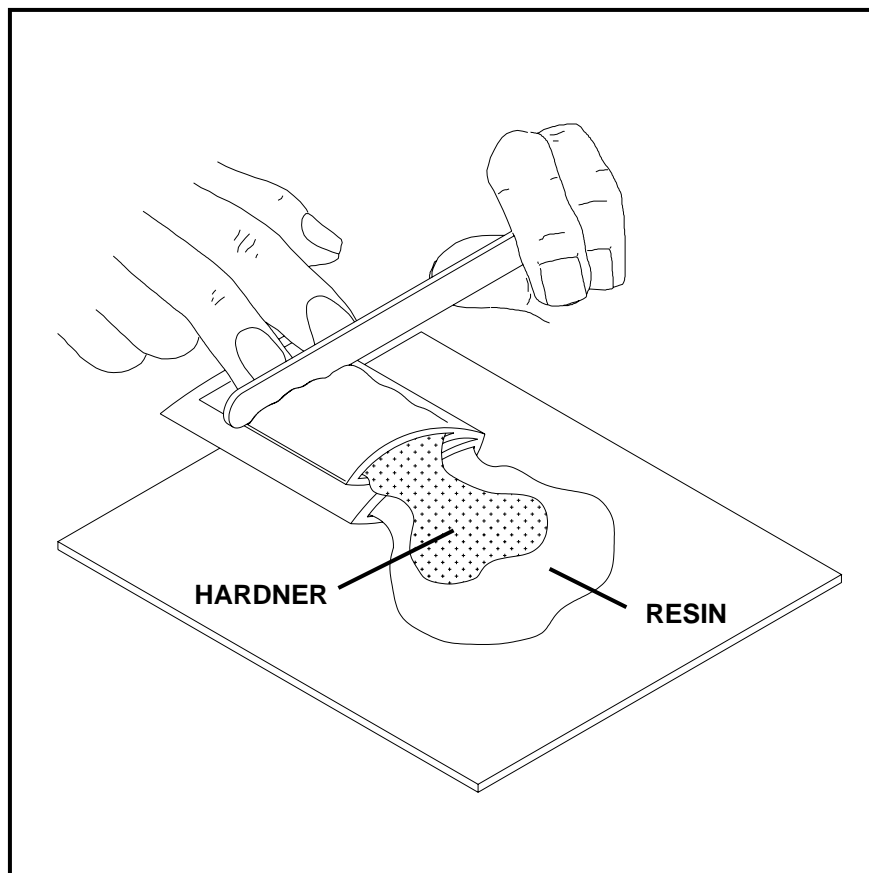

FIGURE 3. CLICK BOND CB200 AND CB300 MIXING METHOD
- d. Lay the folded packet on the CB902 plastic mixing sheet and push out the entire contents using the edge of the mixing stick. Press down hard with the mixing stick to make sure all of both components are removed as shown in Figure 3.